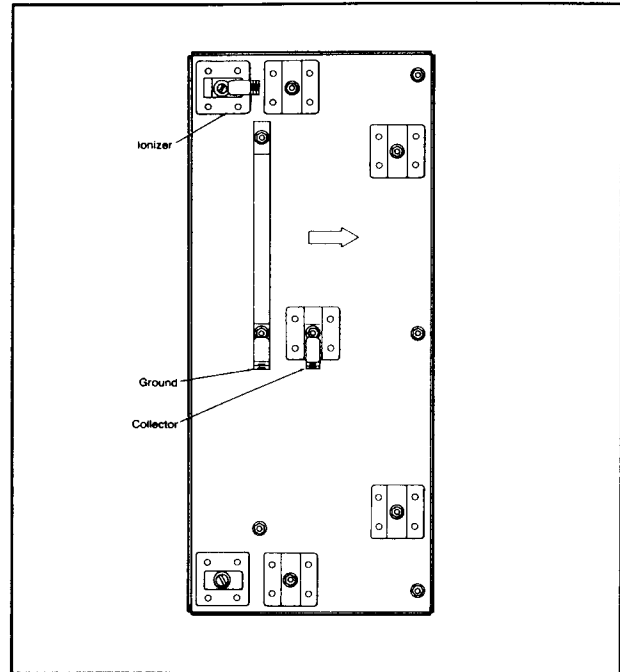

FIGURE 11 - CELL INSULATORS & CONTACTS
- Using a voltmeter, measure the voltage from the collector contact to ground. See Figure 11.
- Using a voltmeter, measure the voltage from the ionizer contact to ground. See Figure 11.
- Turn the electronic air cleaner OFF, and release the interlock safety switch. Bleed the electronic cells by placing a screwdriver across the ionizer contact to ground and the collector contact to ground. See Figure 11.
- Remove dirt accumulated on the insulators and on the ionizer and collector contact tabs. See Figure 11.